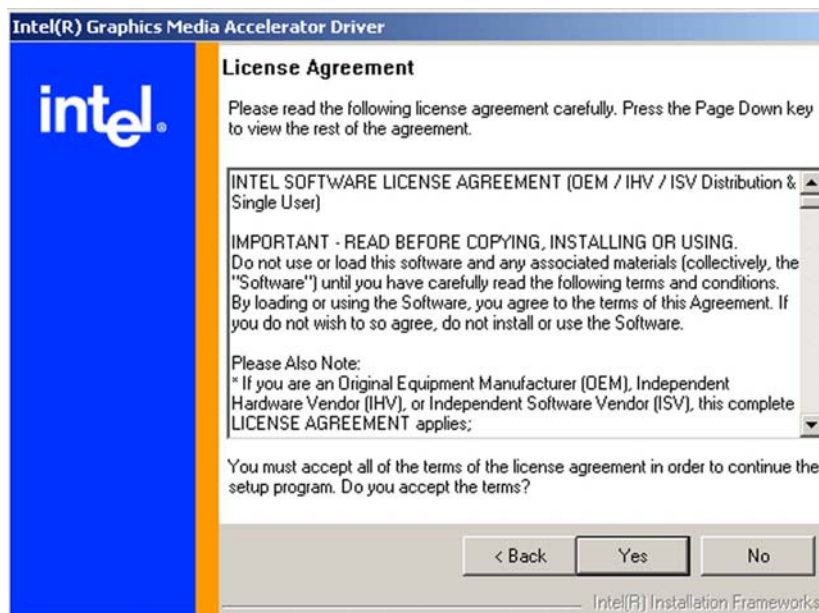

Figure 6-9: VGA Driver License Agreement
Step 6: A license agreement shown in **Figure 6-9** appears. Read through the license agreement.
the “**YES**” button (**Figure 6-9**). The installation notice shown in **Figure 6-10** appears.